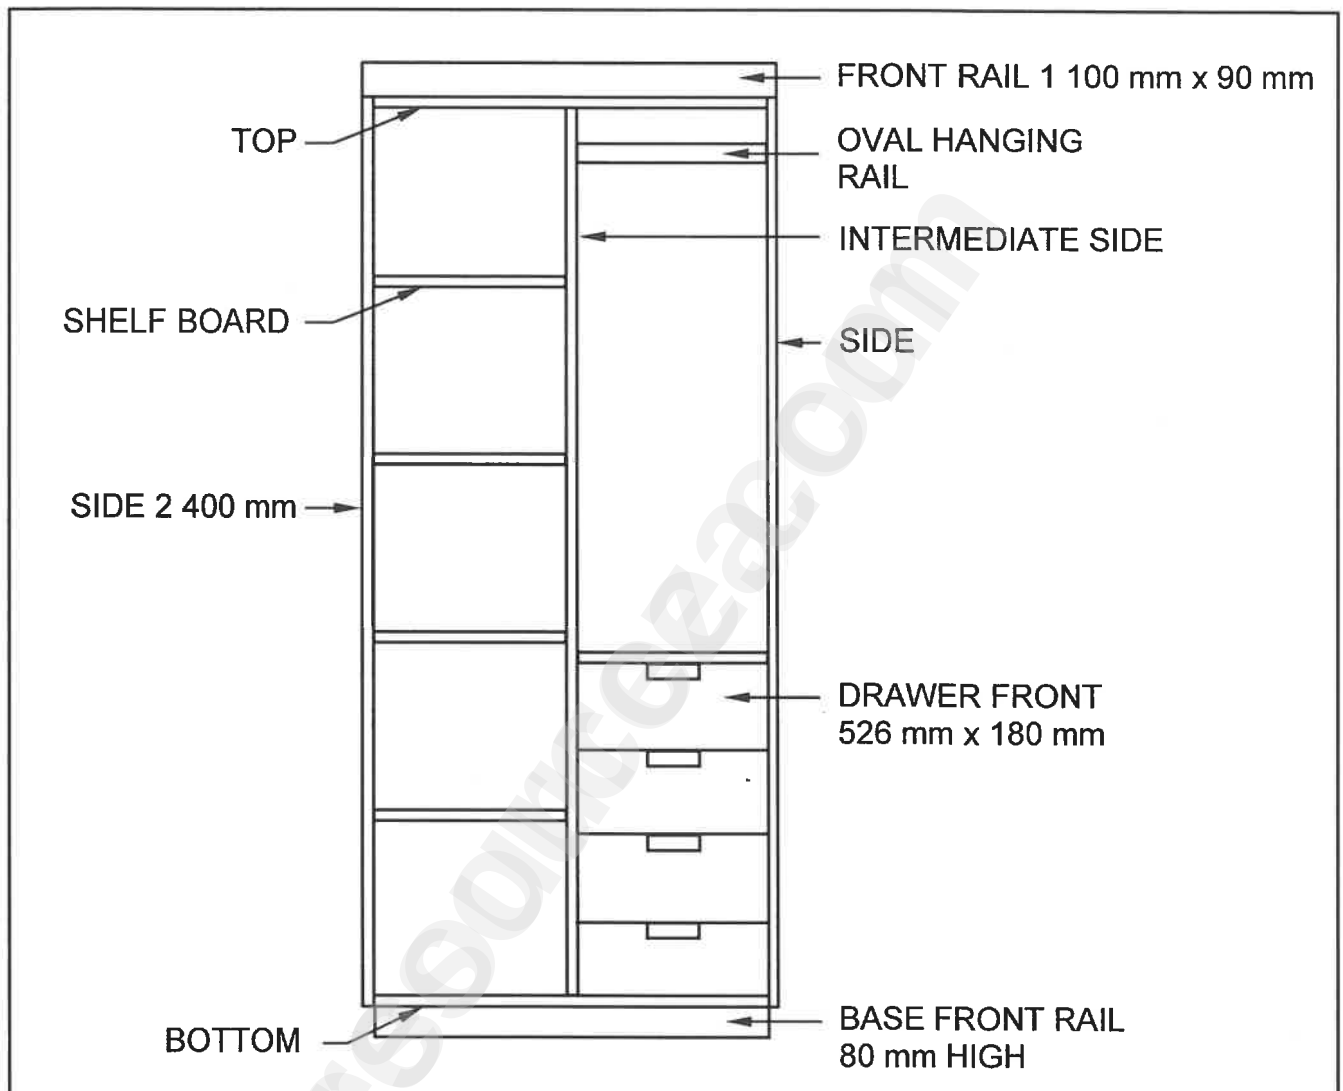

FIGURE 3.2
3.2 **Downloaded from eduresourceza.com** FIGURE 3.2 below shows the front view of a free-standing cupboard without doors.